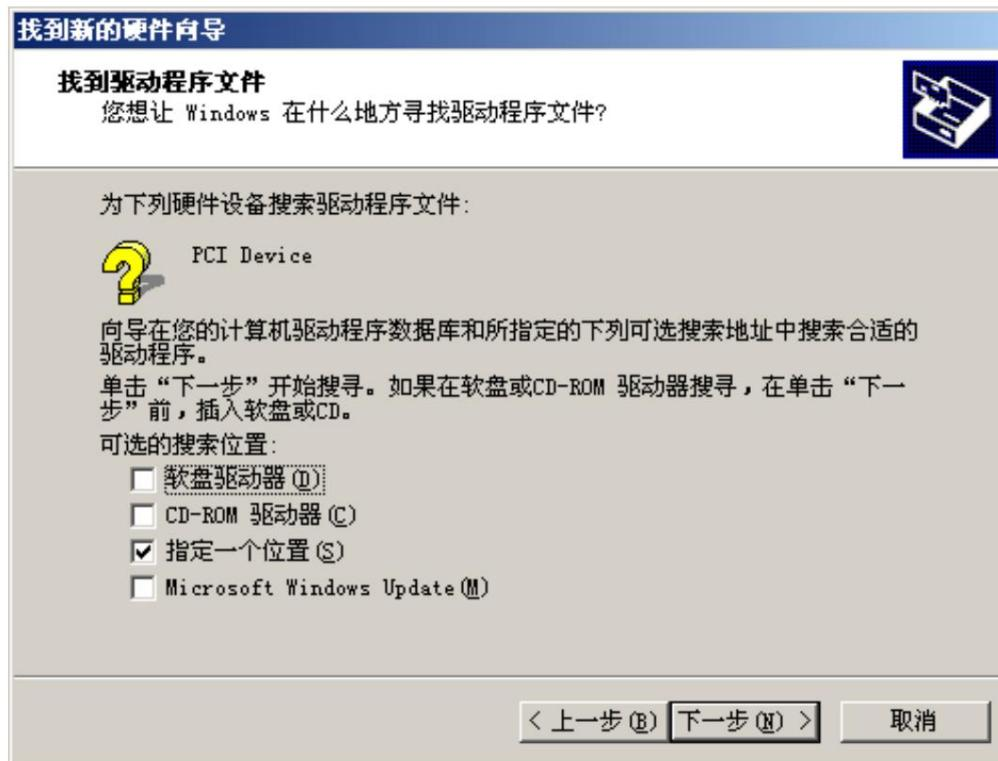

Figure 5-3 Select "Specify a location" in the dialog box
4. In the search location dialog box shown in Figure 5-3, select "Specify a location" and press "Next" to continue.